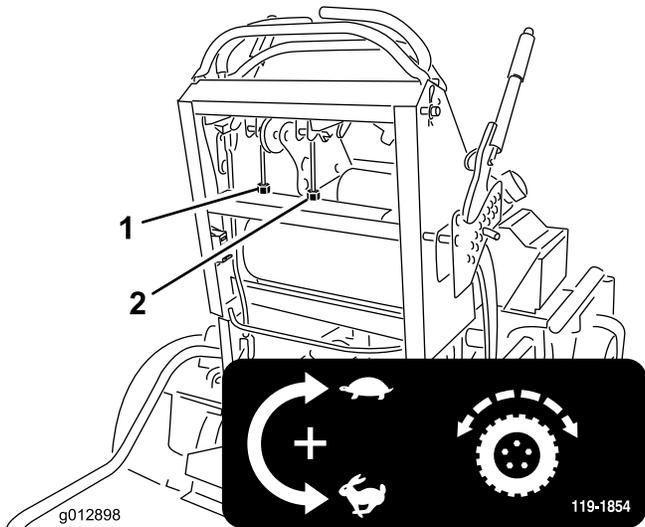

Figure 55
4. Rotate the right cable adjustment to position the right motion control in the center of the control panel neutral lock slot. Then, rotate the left cable adjustment in quarter-turn increments until the machine tracks straight (Figure 55).